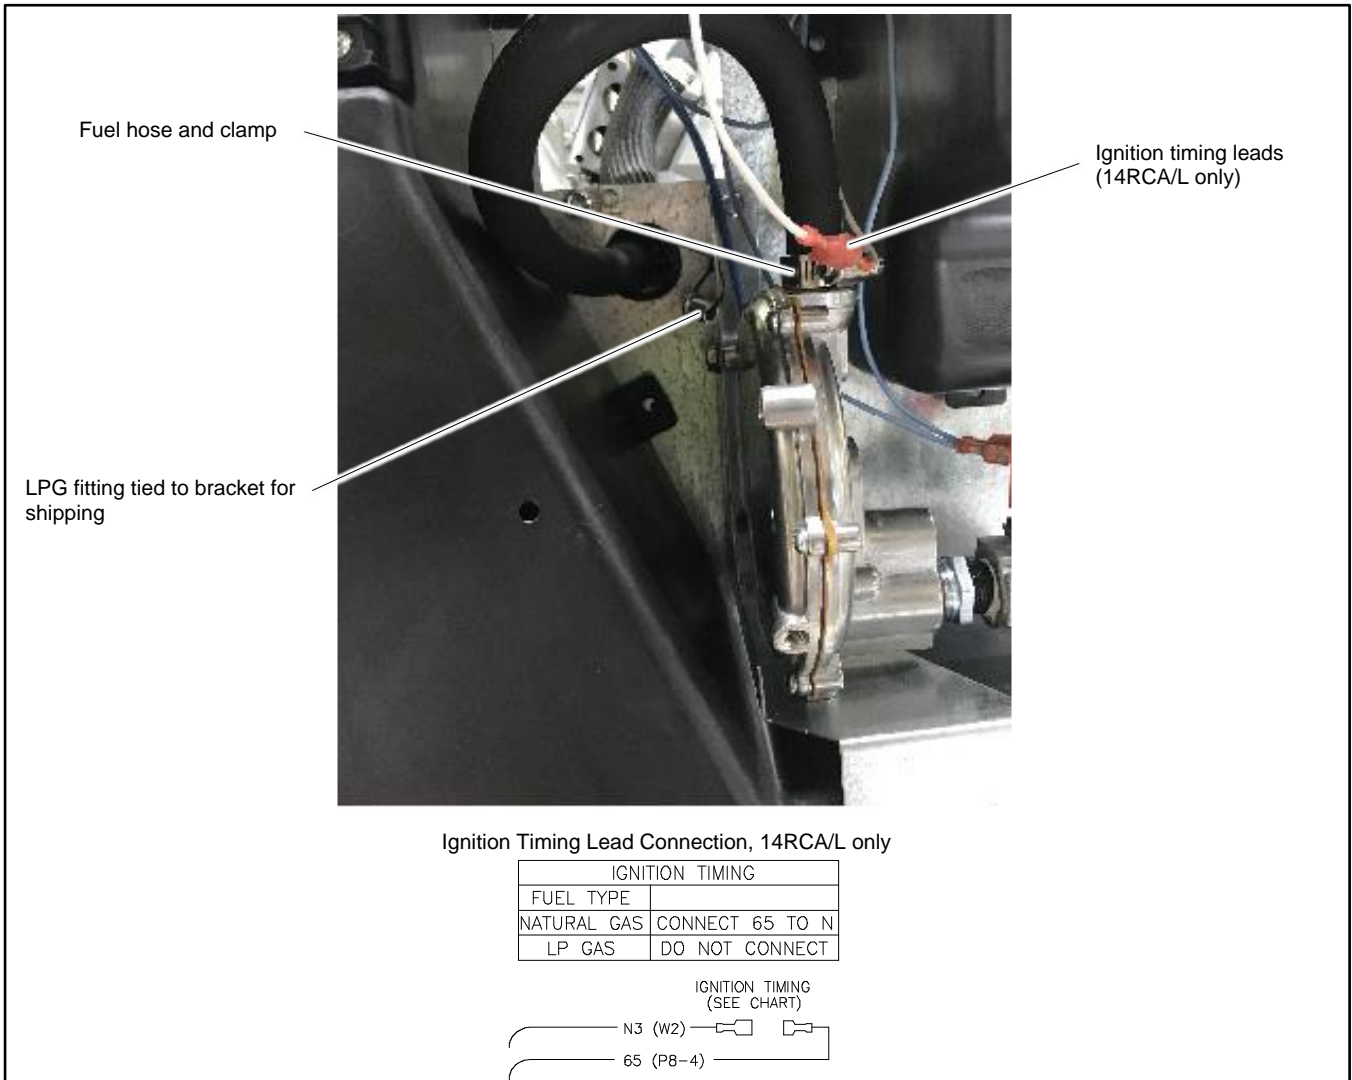

Figure 13 Fuel System, As Shipped
The unit is typically shipped set up for natural gas, with the LPG fitting tied near the fuel solenoid valve. To convert to LPG, remove the NG fitting and install the LPG fitting as described below. See Figure 13 for the fuel system component locations.
9. Disconnect ignition timing leads 65 and N3 for LPG. The ignition timing leads are located near the top of the compartment. See Figure 13.